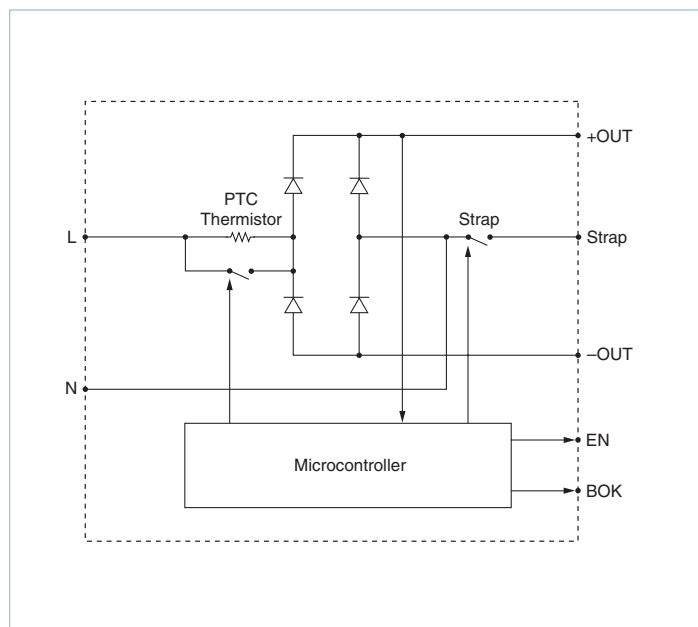

Figure 8 — Functional block diagram
**Initial Conditions:** The switch that bypasses the inrush limiting PTC (positive temperature coefficient) thermistor is open when power is applied, as is the switch that engages the strap for voltage doubling (see Figure 8). In addition, the downstream DC-DC modules are disabled via the Enable (EN) line, and Bus-OK (B OK) is high.